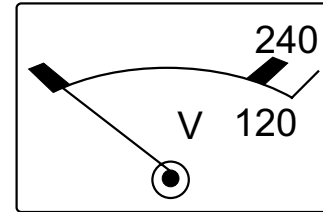

Figure 43. AC Voltmeter (Zero Volts)
- Verify that the AC voltmeter (Figure 43) on the generator reads zero volts.